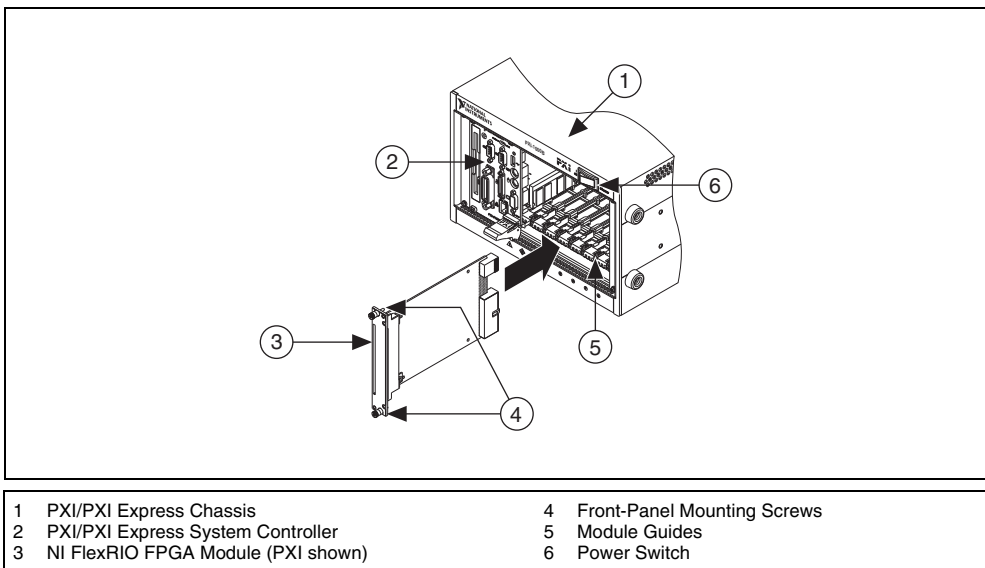

Figure 3. Installing an NI FlexRIO FPGA Module in a PXI/PXI Express Chassis
- Place the PXI/PXI Express module edges into the module guides at the top and bottom of the chassis and slide the module into the chassis until the module is fully inserted, as shown in Figure 3.